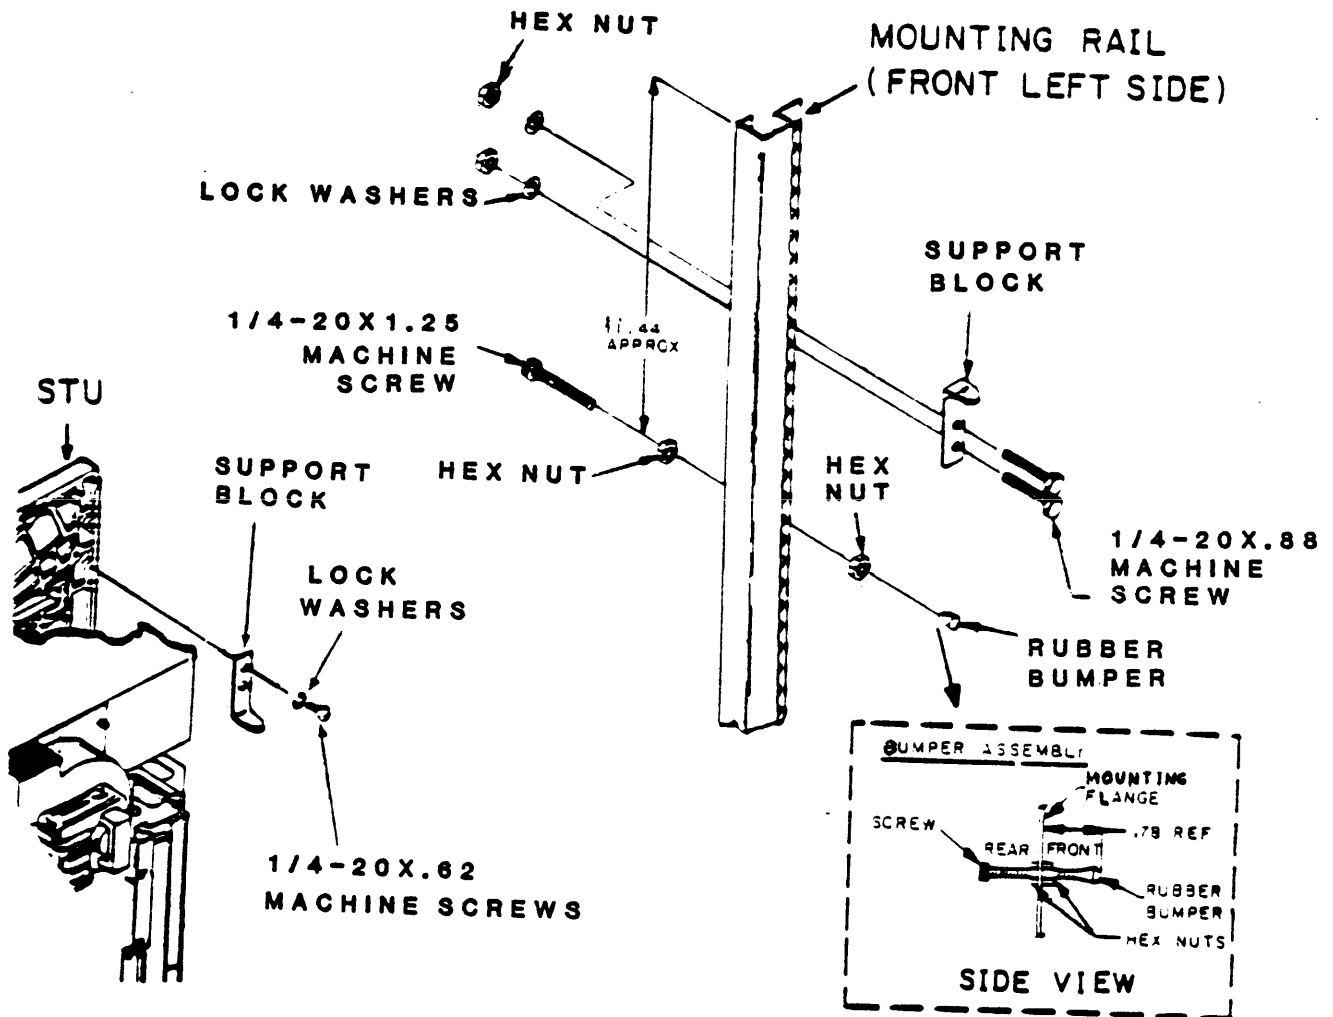

Figure 3-12. Bumper Assembly And Support Block Installation
6. With STU in open position, install bumper assembly (figure 3-12) into mounting rail approximately one to two inches above point at which pawl fastener contacts mounting rail.
8. Install support block to the rear of the STU tape deck on the left side (Figure 3-12), and secure with 1/4-20 x 0.62 inch long machine screws and lockwashers.
9. With the STU in an open position, attach one support block to the left mounting flange on the rack (Figure 3-12) and secure with two 1/4-20 x 0.88 inch long machine screws, lockwashers, and hex nuts.